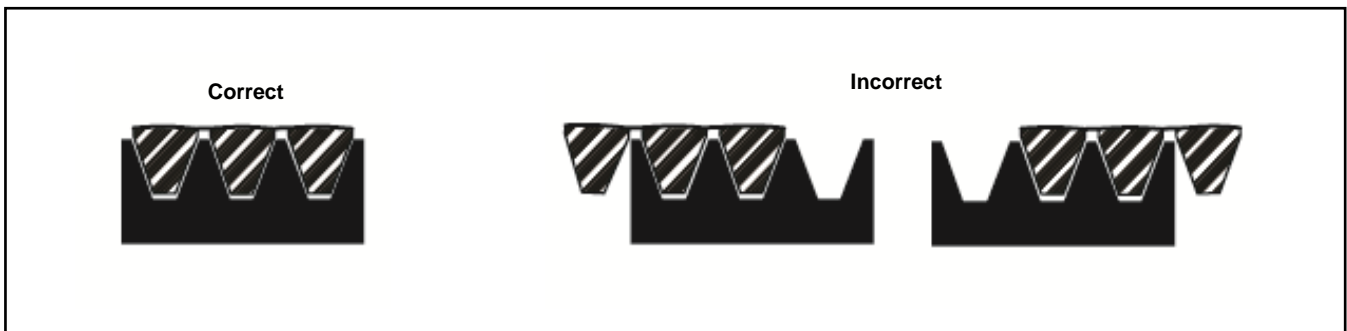

Figure 23 Belt Alignment
5. Make sure that the belt is properly aligned with the grooves on each pulley. See Figure 23.